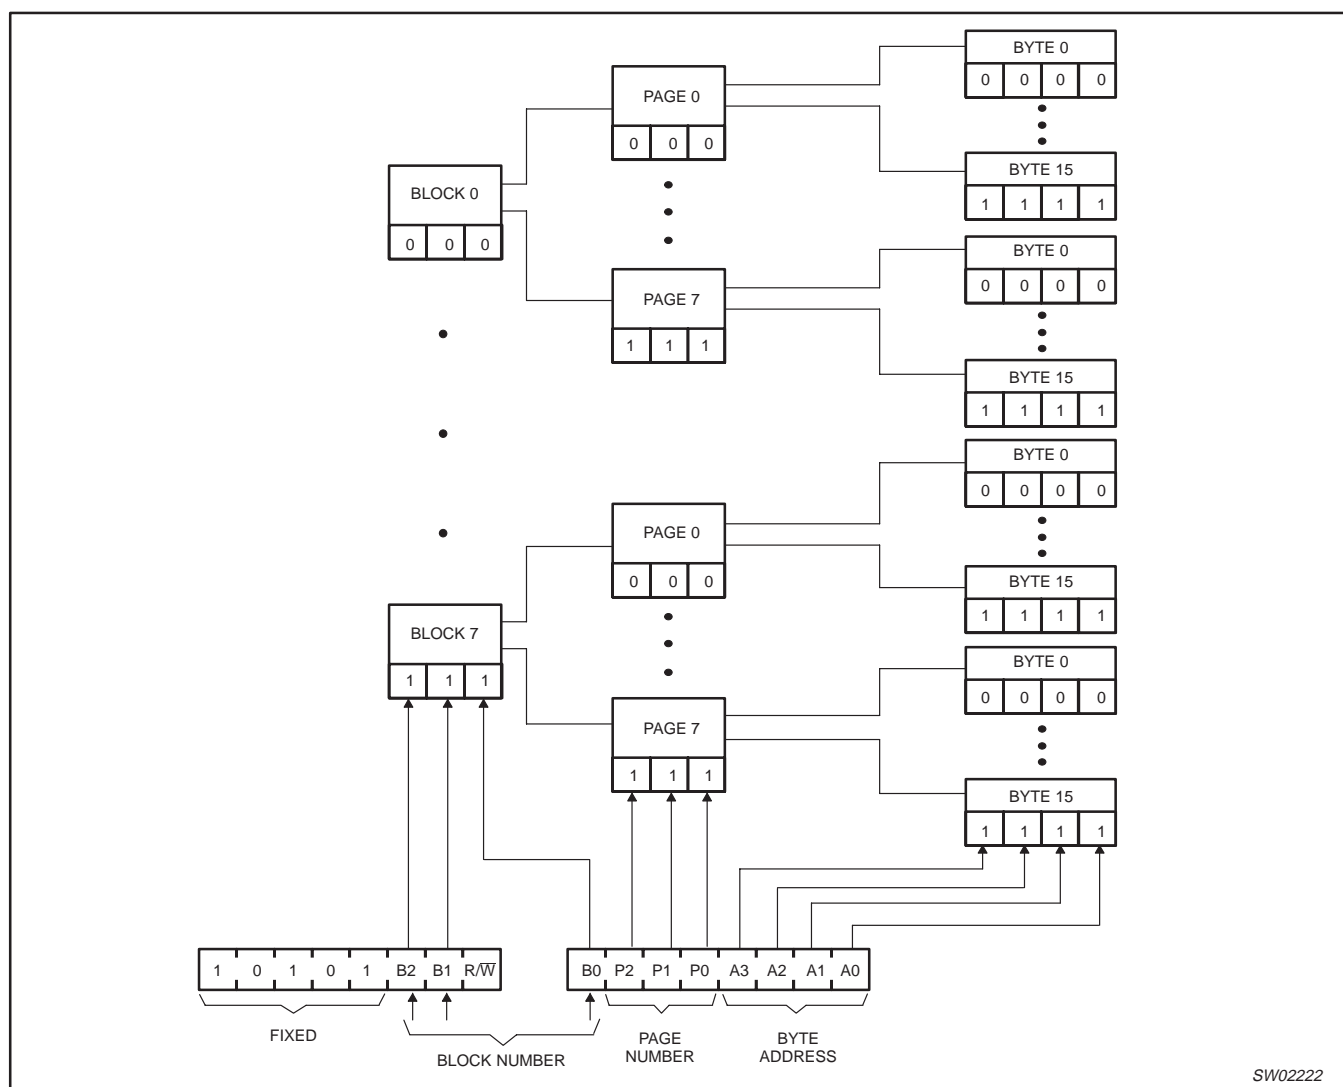
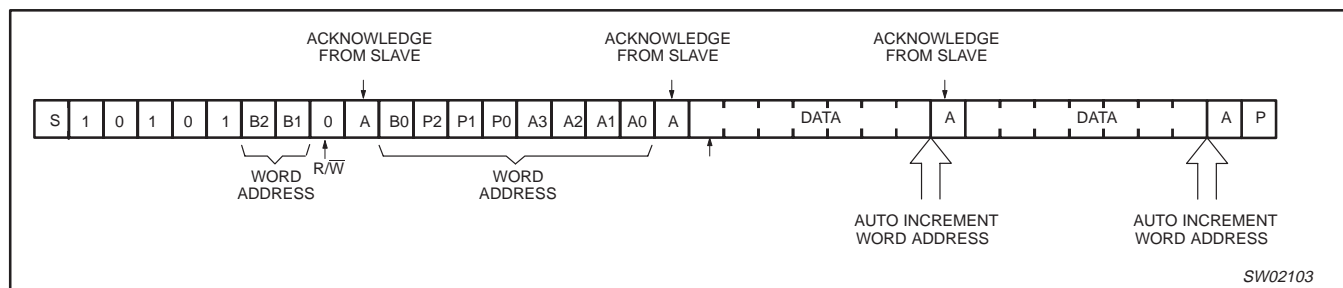

Figure 4. Memory addressing
Figure 5. Auto-increment memory word address; two byte write
**Byte/word write:** Write command may be used to set the address for a subsequent Read command. For a write operation, the PCA24S08 requires a second address field. The address field associated with the two software selectable bits in the slave address is a word address providing access to the 1024 bytes of memory, as shown in Figure 4. Upon receipt of the word address, the PCA24S08 responds with an acknowledge and awaits the next eight bits of data, again responding with an acknowledge. Word address is automatically incremented. Figure 5 shows how the memory array is addressed when the slave address byte and address field byte are sent. The master terminates the transfer by generating a STOP condition. After this STOP condition, the Erase/Write (E/W) cycle starts and the I2C-bus is free for another transmission. Up to 16 bytes of data can be written in the slave writing sequence (E/W cycle).